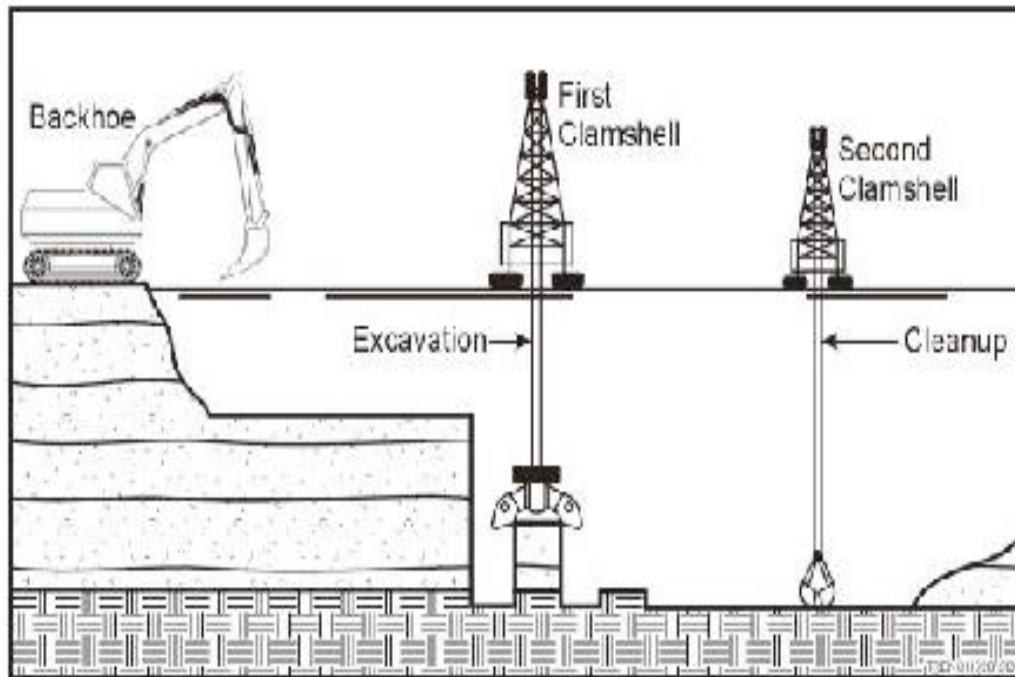

Figure 7-3. Trench Excavation Using a Clamshell and Backhoe
- A clamshell bucket can be used for excavation to around 200 ft bgs. A cable-suspended mechanical clamshell is a crane-operated grabbing tool that depends on gravity for accurate excavation and closure of the grab (Figure 7-3). Therefore, a heavier tool is beneficial.